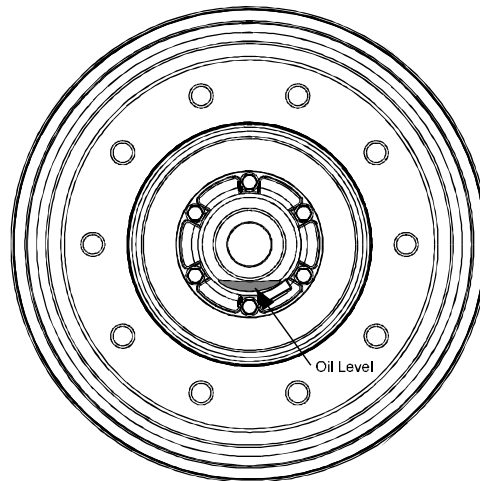

Figure 5 - Wheel Bearing Oil Level
4. Check oil level through hub cap window. If level is below the "add" level line then remove the pipe plug and fill with recommended oil until "full" level is achieved. (**Figure 5**). Add oil slowly since the heavy weight oil will settle slowly in the hub.